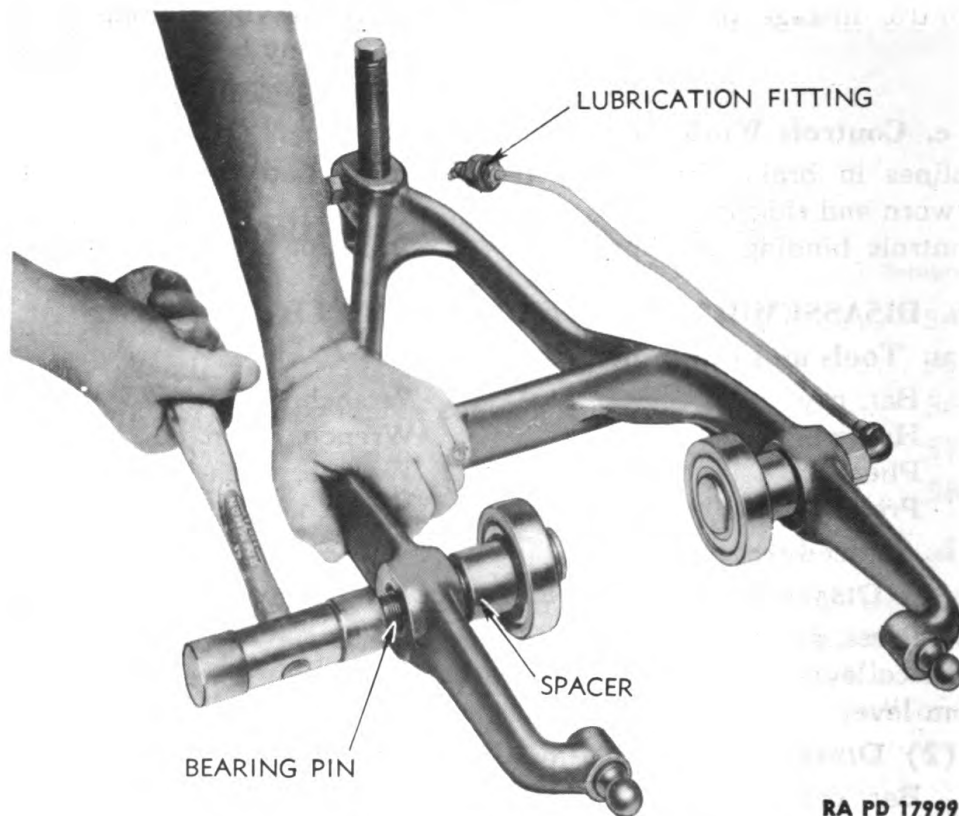

Figure 147 — Removing Bearing Pin from Throw-out Fork
(a) Unscrew lubricating tube out of pipe elbows ($\frac{7}{16}$ -in. wrench), and unscrew pipe elbows out of bearing pins (pliers) (fig. 147).
(b) Remove nuts from end of bearing pins ($\frac{7}{8}$ -in. wrench) and tap pins out of arms of fork with soft hammer (fig. 147). Bearings and spacers will remain on pins.
b. Procedure.**(1) ASSEMBLE THROW-OUT FORK ASSEMBLY (fig. 147).**